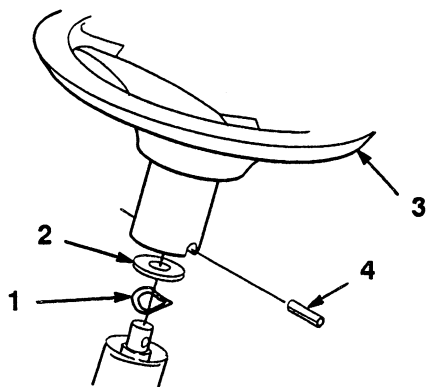

Figure 3
2. Slide wave washer then flat washer over steering shaft (Fig. 3).
3. Position the steering wheel onto the shaft. Line up the hole in the steering wheel with the hole in the shaft (Fig. 3). From the seat you should be able to read the brand logo on the steering wheel.
5. Using a hammer, drive the roll pin in until it is flush with the outside of the steering wheel (Fig. 3).